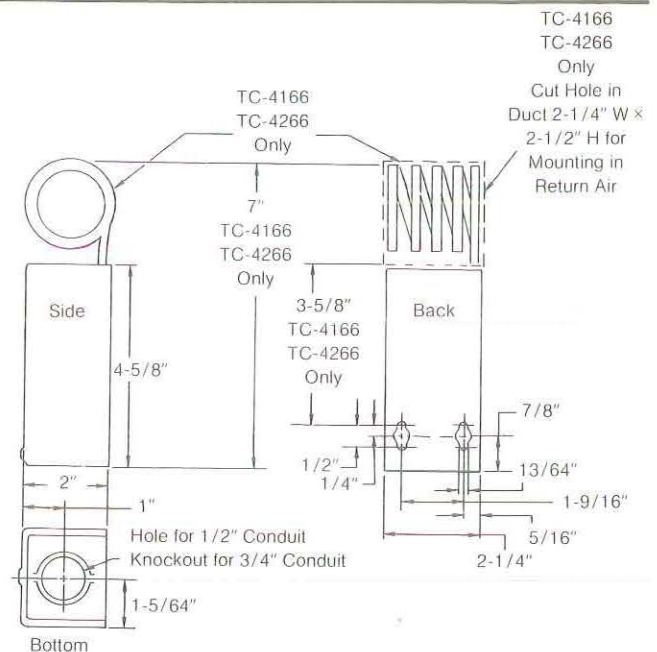

Figure 1. Case Dimensions
Locate the device allowing proper distance to the bulb location. The case can be mounted in any position. Refer to Figure 1 for case dimensions.
- Remove cover and provide 2 holes for #10 round head screws using the housing as the template or by using the dimensions shown in Figure 1.
1. Prepare duct for mounting by cutting hole and providing mounting screw holes per Figure 1.